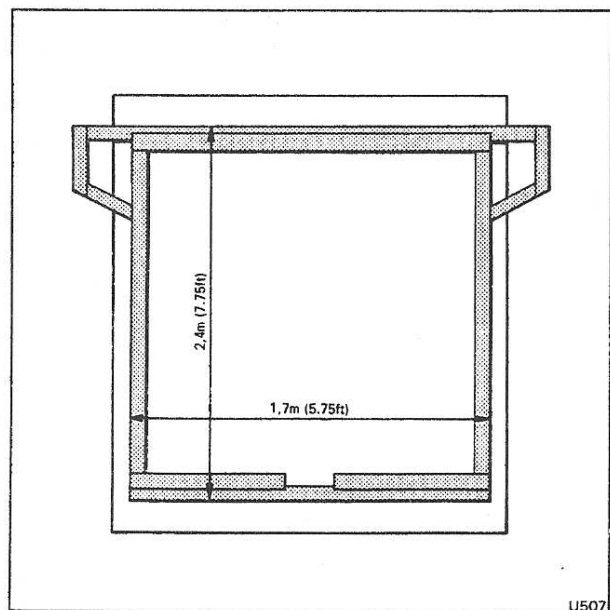

Fig. S93 Basic jig for Everflex roof trim
7. Using a jig similar to the one shown in Figure S93, centralize and tack the four corners of the centre panel to the frame. Ensure that the centre panel is taut then, lightly tack the side panels to the frame.